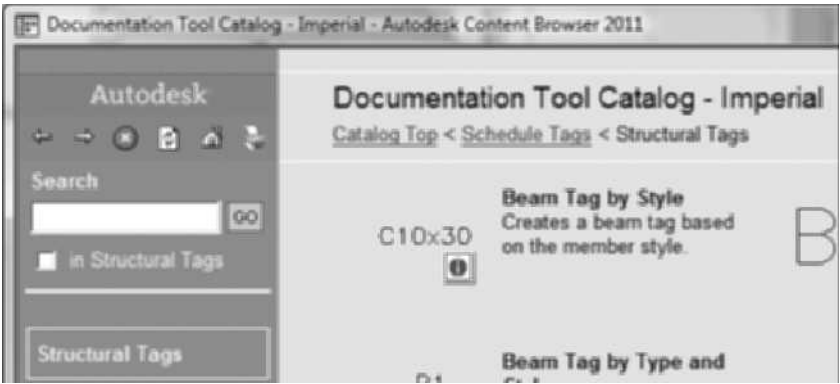
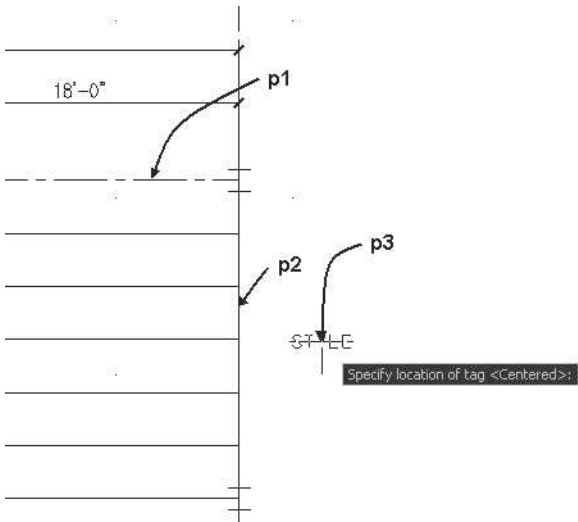

FIGURE 13.43 Beam tag i-dropped from the Documentation Tool Catalog - Imperial
FIGURE 13.44 Beam tag placed
9. Select the **Home** tab. Choose **Layer Freeze** from the Layer panel. Select the Column grid at **p1** as shown in Figure 13.44. Press ESC to end the command.
10. Select the Annotate tab. Choose Annotation Tools to display the Document palette group. Choose the Tags palette. Select the More Tag Tools of the Tags palette to open the **Content Browser**. Double-click Structural Tags to open the Structural Tags category as shown in Figure 13.43. Drag the i-drop of the **Beam Tag by Style** tool to the workspace. Respond to the workspace prompts given in the following and in Figure 13.44 to place the tag:
Select object to tag: (Select the beam at p2 as shown in Figure 13.44.)
Specify location of tag <Centered>: (Select a point near p3 as shown in Figure 13.44.)